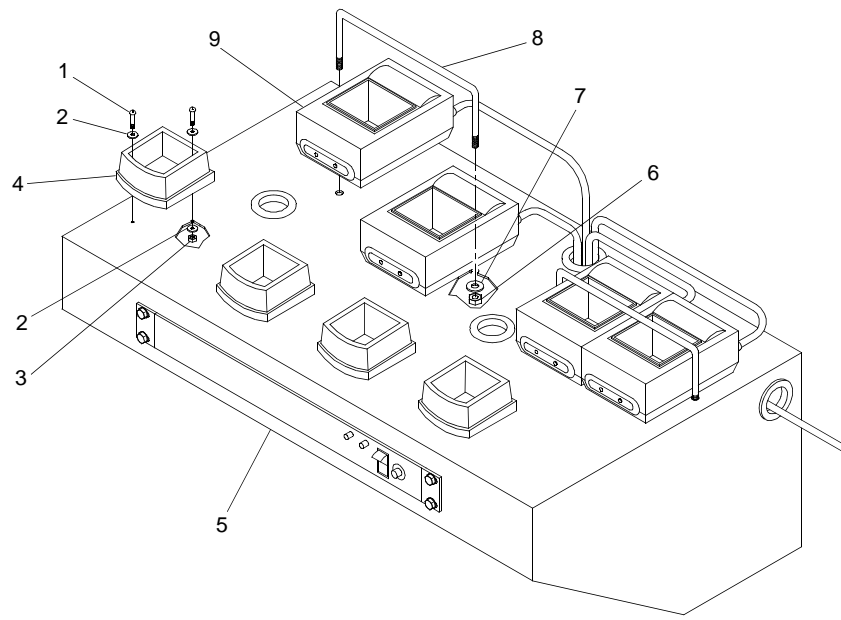

Figure 3. Battery Charger Mounting
5. Remove two screws (figure 3, item 1), four washers (figure 3, item 2) and two locknuts (figure 3, item 3) securing upright battery charger (figure 3, item 4) to battery charger shelf (figure 3, item 5).
6. Remove upright battery charger (figure 3, item 4) and discard.
7. Remove two locknuts (figure 3, item 6), washers (figure 3, item 7) and retainer (figure 3, item 8).
8. Remove rapid battery charger (figure 3, item 9) and discard.
9. Position new rapid battery charger (figure 3, item 9) on the battery charger shelf (figure 3, item 5).
10. Place retainer (figure 3, item 8) over rapid battery charger (figure 3, item 9) and secure with two washers (figure 3, item 7) and new locknuts (figure 3, item 6). Tighten locknuts (figure 3, item 6).
11. Position new upright battery charger (figure 3, item 4) on the battery charger shelf (figure 3, item 5).
12. Install two screws (figure 3, item 1), four washers (figure 3, item 2) and two new locknuts (figure 3, item 3). Tighten locknuts (figure 3, item 3).